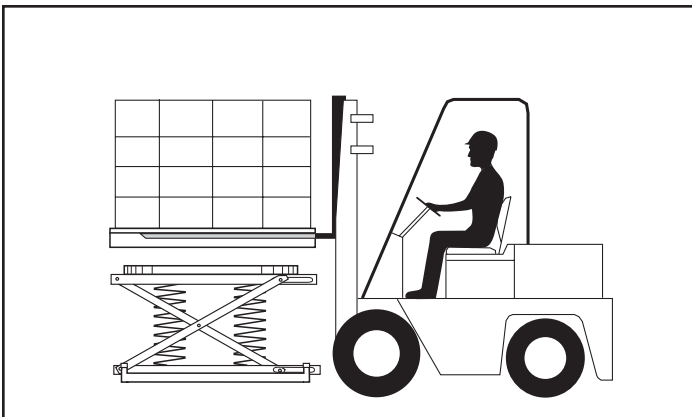

Fig. 8 Unloading with a Fork Lift
1. Insert the forks fully into the pallet, and lift the pallet straight up and clear of the top of the unit. See Fig. 8.